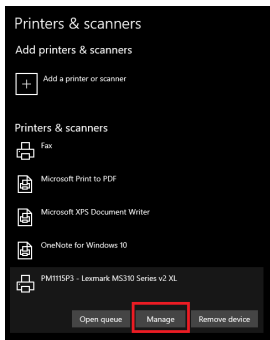

Figure 30
16. Click on the recently installed **Printer**. Click on **Manage**. (Figure 30)